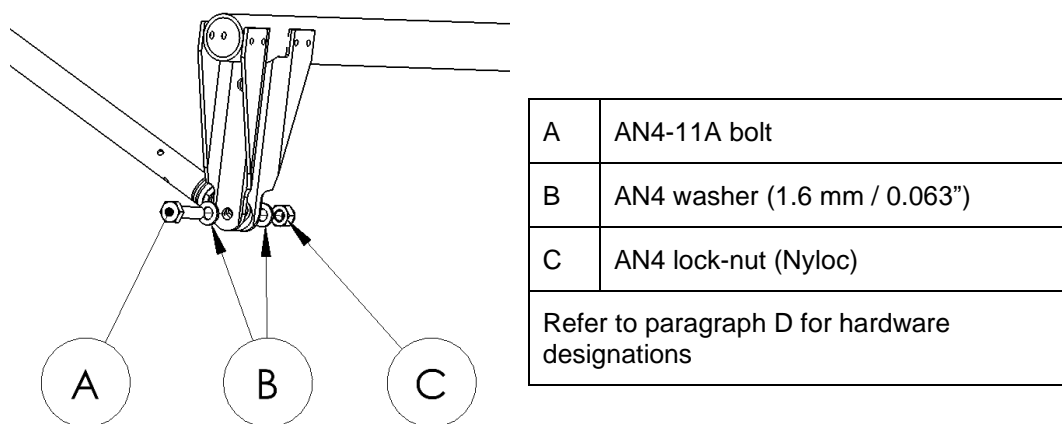

Figure 21: Flap pushrod-to-flap torque tube control arm connection.
- Tighten the lock nut on the bolt through the flap pushrod rod end bearing sufficiently, observe the correct placement of washers (refer to Figure 21) and note that the bolt is installed with its head facing the wingtip.